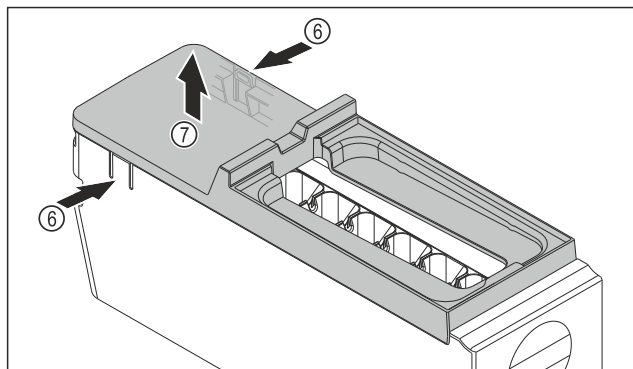

Fig. 89
- ▶ Removing the EasyTwist-Ice body cover: Push the tabs Fig. 89 (6) on both sides of the EasyTwist-Ice body with one hand.
- ▶ Use the other hand to remove the cover Fig. 89 (7) upwards.